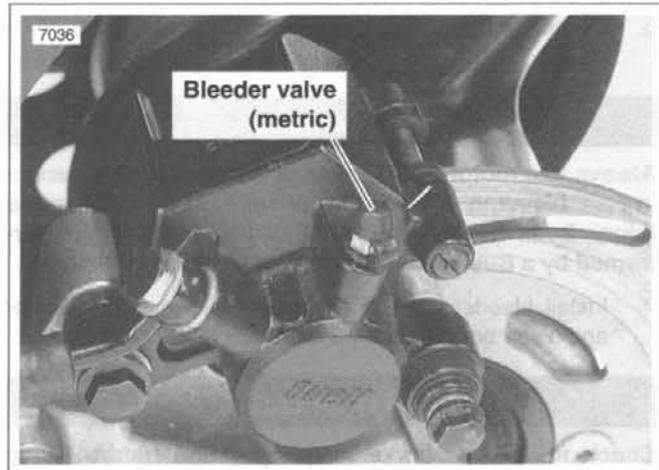

Figure 2-77. Rear Caliper Bleeder Valve (Metric)
1. See Figure 2-77. Drain brake fluid into a suitable container. Dispose of used fluids according to local laws.